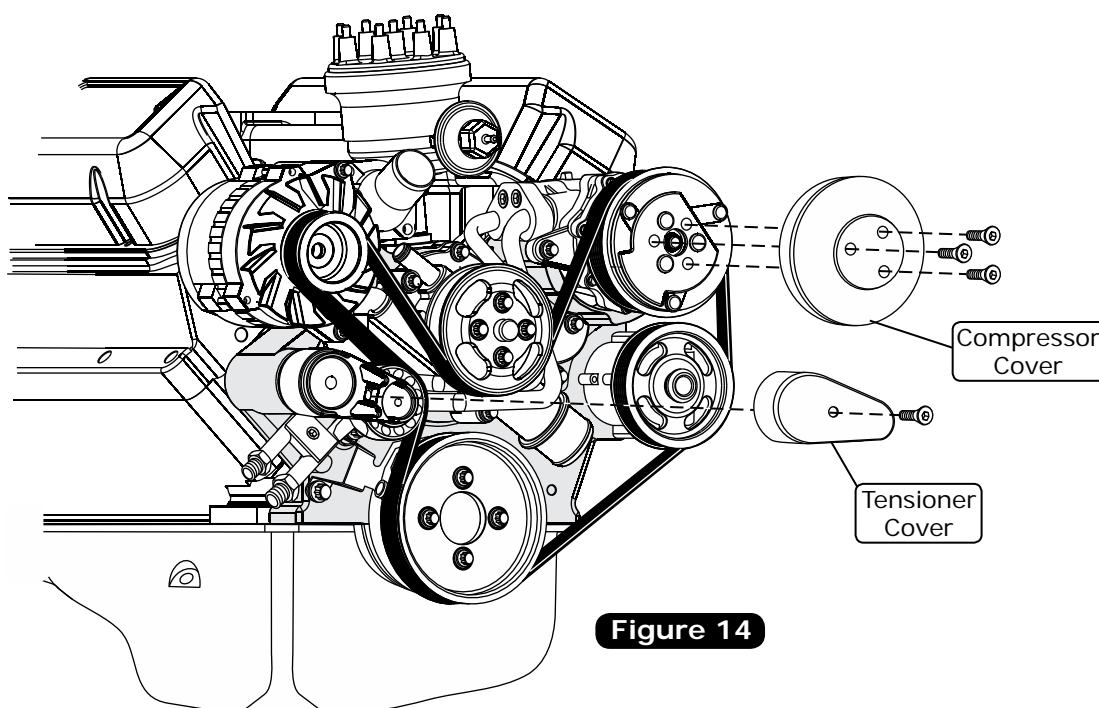

Figure 14
1. Install the tensioner cover and compressor cover (See instructions supplied with covers) (See Figure 14, below).